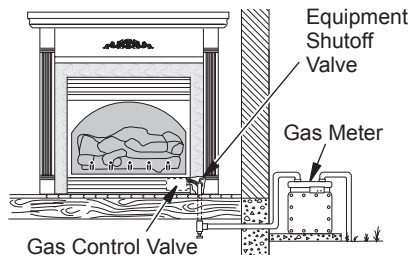

Figure 18 - Checking Gas Joints for Natural Gas
3. Check all joints from gas meter to equipment shutoff valve for natural gas or propane/LP supply to equipment shutoff valve for propane/LP (see Figures 18 and 19). Apply noncorrosive leak detection fluid to all joints. Bubbles forming show a leak.
4. Check all joints from equipment shutoff valve to gas control valve (see Figures 18 or 19, page 16). Apply noncorrosive leak detection fluid to all joints. Bubbles forming show a leak.